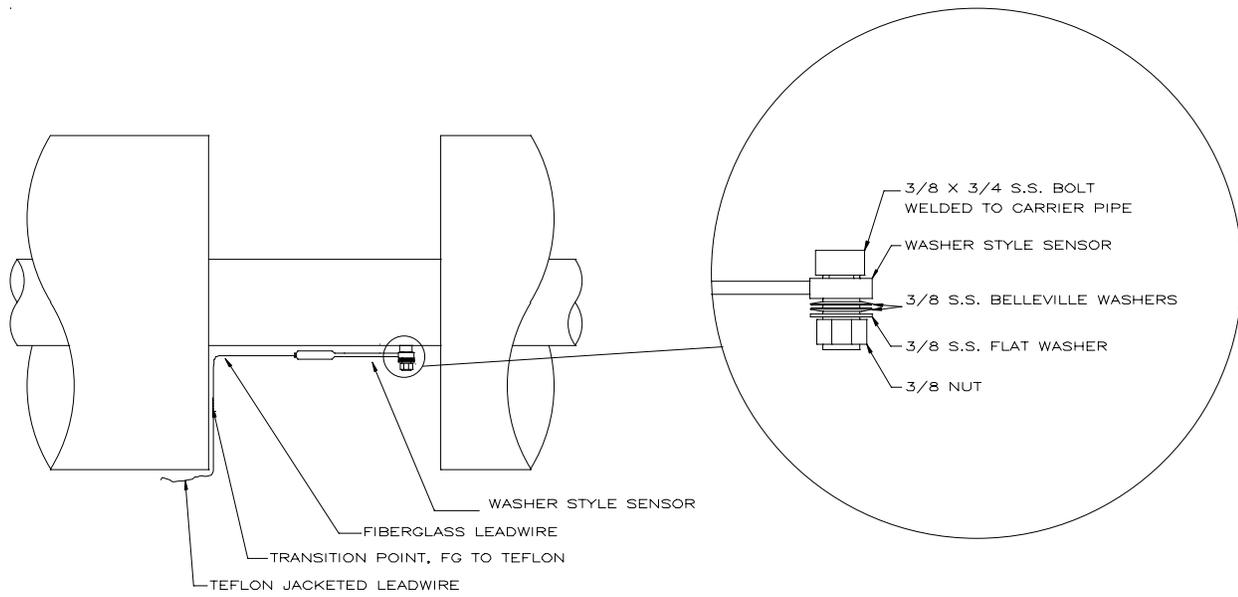

Figure 3
1. Full weld the 3/8" x 3/4" stainless steel bolt of the pipe, as shown in Figure 3.
2. Install sensor as shown in exploded view, Figure 3. Be careful to align sensor parallel to pipe. Tighten nut sufficiently to compress the Belleville washers. Do not over tighten, as this may prevent removal of sensor after operation. It may be desirable to use a high-temperature anti-seize compound on the threads.
3. Route sensor lead wire along pipe to edge of field joint, then perpendicular to the pipe, as shown in Figure 3. Be sure that the Teflon insulated portion of the lead wire does not come in contact with the pipe. The transition point between the fiberglass and Teflon should be positioned about half the distance from the pipe to the jacket.